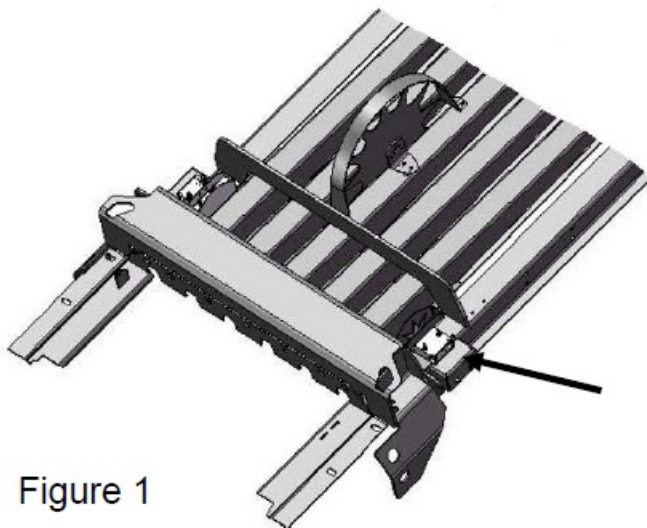

Figure 1
The star wheels are to be mounted on top of the baler, just behind the knotters and under the walkway on both sides (Figure 1). The notch and holes for the star wheel are pre-cut. If the star wheels are cutting the twine the sensors and notch must be moved out an additional 1/2" (13mm). Secure the star wheels with 5/16" x 3" BHCS (x2 each side) from the bottom side. Blocks are dropped down on the bolts and secured in place with the star wheel twine guards (001-4645, 001-4644). The twine guard containing the two extra holes will be placed on the right side of the baler. Secure with 5/16" lock washers and nuts. Star wheel connection found on baler harness shown in Figure 2.
- Make sure that the tip assemblies (A) are mounted in line with the star wheels (B) so that the system is marking the wet spots of the bale. To get the best spray pattern focused directly on the wet spot of the bale the nozzles will need to be approximately 1" above the bale that is being marked. A small notch may need to be cut to increase surface area of the bale being marked if mounting on side of chamber.
2. Once you have the tank and mounting bracket securely fastened to the baler, locate parts A, B, C, D & E pictured below in Figure 1 or 2. Assemble in the following order: (A) Elbow | (B) nozzle holder | (C) check valve | (D) reducing bushing | (E) tip as pictured below.